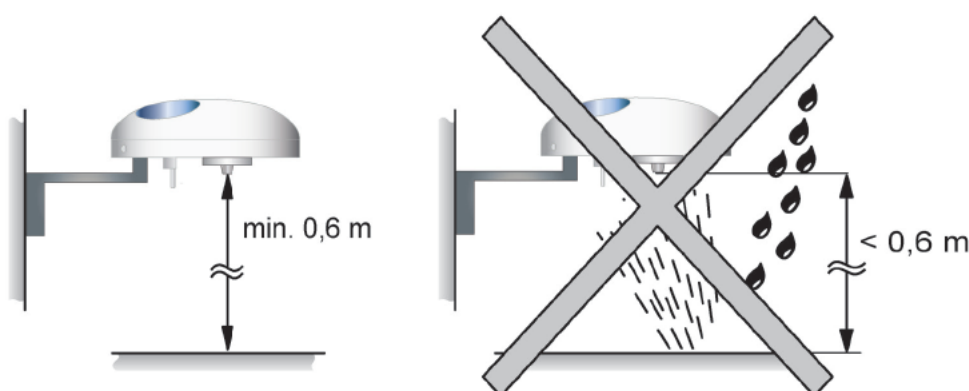

Figure 2: Minimum distance to surfaces
- Attach the fastening arm enclosed with the weather station to a suitable wall. In so doing, always ensure the minimum distance to the surfaces beneath (Figure 2).